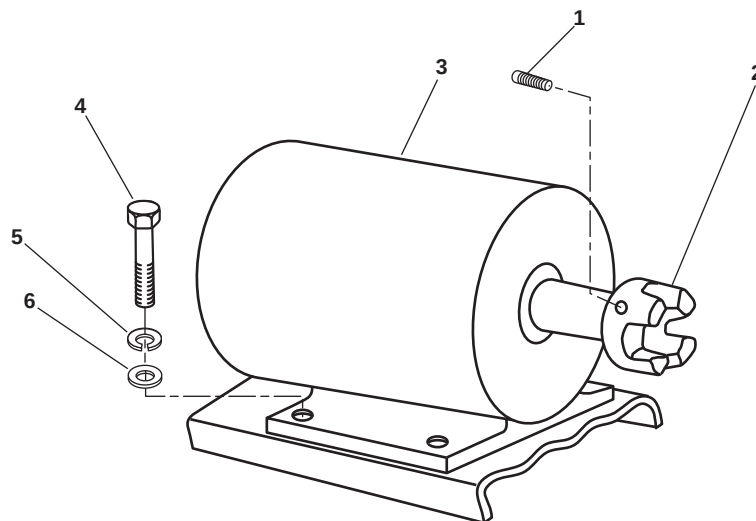

Figure 3. Electric Motor
7. Loosen the motor coupling flange setscrew (figure 3, item 1).
8. Slide the motor coupling flange (figure 3, item 2) towards the motor (figure 3, item 3).
9. Remove the four bolts (figure 3, item 4), four lockwashers (figure 3, item 5), and four flat washers (figure 3, item 6). Discard the lockwashers.
10. Remove the motor (figure 3, item 3) from the pump foundation.
11. Slide the motor coupling flange (figure 3, item 1) off the motor shaft.
1. Slide the motor coupling flange (figure 3, item 2) onto the motor shaft (refer to figure 3) with the flat end towards the motor (figure 3, item 3) housing.
2. Position the motor (figure 3, item 3) on the pump foundation with the mounting holes aligned.
3. Install four bolts (figure 3, item 4), four new lockwashers (figure 3, item 5), and four flat washers (figure 3, item 6). Do not tighten at this time.
7. Tighten the motor coupling flange setscrew (figure 3, item 1).
8. Tighten the four bolts (figure 3, item 4).